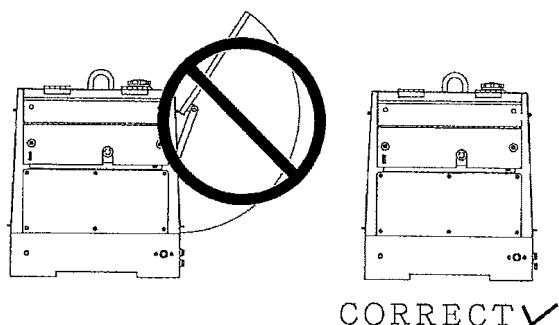

Figure 19. Generator Doors
2. **NEVER** operate the generator with the doors **open** (Figure 19). Operation with the doors open may cause insufficient cooling of the unit, and engine damage may result. Close the doors for normal operation.